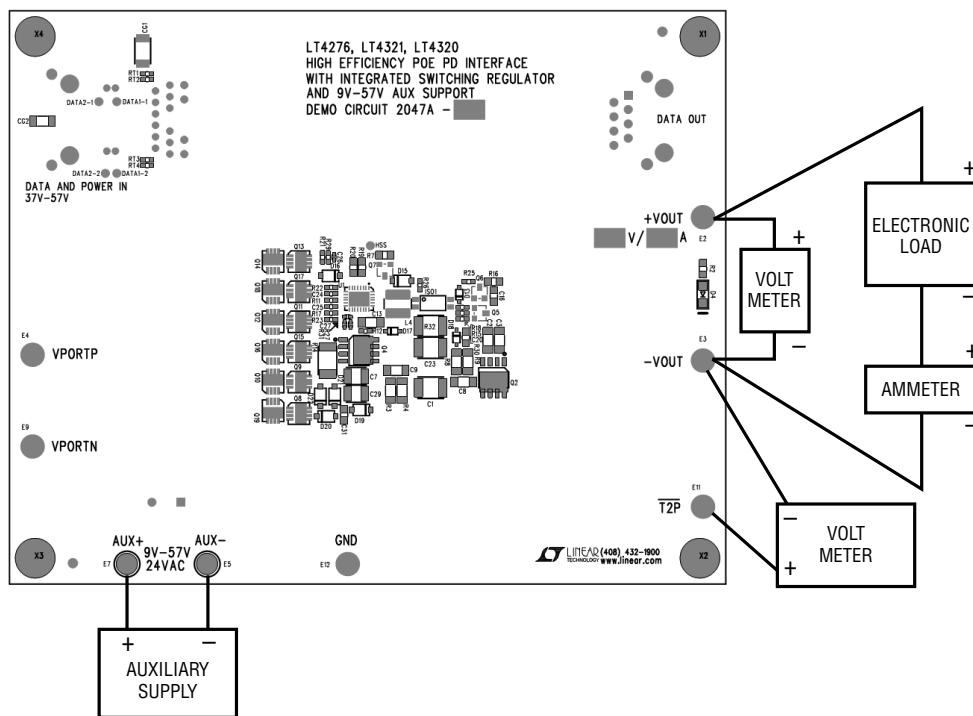

Figure 8. Setup Diagram for Auxiliary Supply Input
1. Place and connect test equipment (voltmeter, ammeter, oscilloscope, and electronic load) as shown in Figure 8.
3. Connect the output of the auxiliary supply to the DC2047A as shown in Figure 8. Turn on the auxiliary supply and set its current limit to 1A. Then increase its output voltage to 48V.
6. Verify  $\overline{T2P}$  response with a voltmeter as shown in Figure 8. The  $\overline{T2P}$  response during auxiliary power operation is: Logic Low.